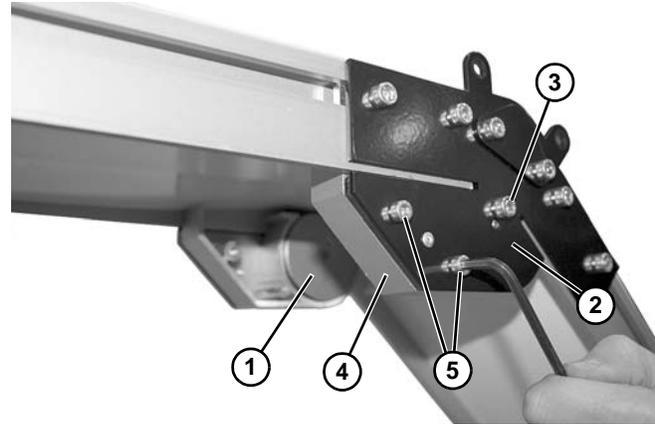

Figure 79
1. If equipped with an upper knuckle, install roller bearing assembly (Figure 79, item 1) into knuckle plate (Figure 79, item 2) with screws (Figure 79, item 3) on both sides of conveyor.
2. Install guard (Figure 79, item 4) on both sides of conveyor with screws (Figure 79, item 5). Tighten screws to 25 in-lb (3 Nm).